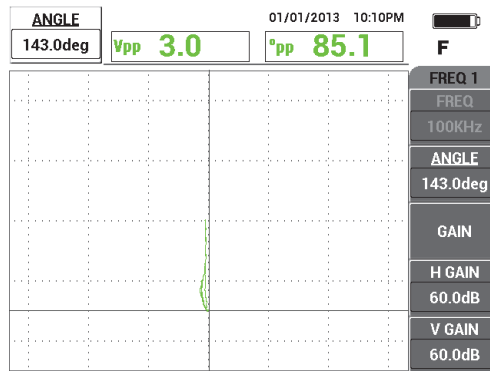

Figure 5-34 The notch signal oriented vertically
4. Press the ANGLE key () , and then rotate the knob until the notch signal is oriented vertically (see Figure 5-34 on page 150).